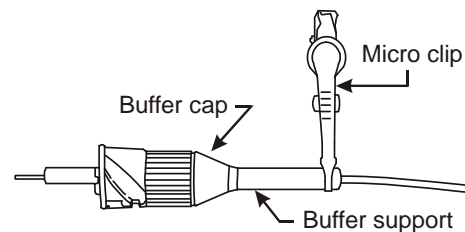

Figure 21. Install Buffer Cap
7. **Install Buffer Cap**—Apply a drop of **Loctite Super Bonder 495** to the threads of the buffer cap. Slip the buffer cap over the buffer support and screw the extender into the connector body. Make sure that the fiber is fully seated into the connector and place a micro clip (1043A tool) on the buffer support to make sure the fiber is not inadvertently pulled out of the connector (Figure 21).